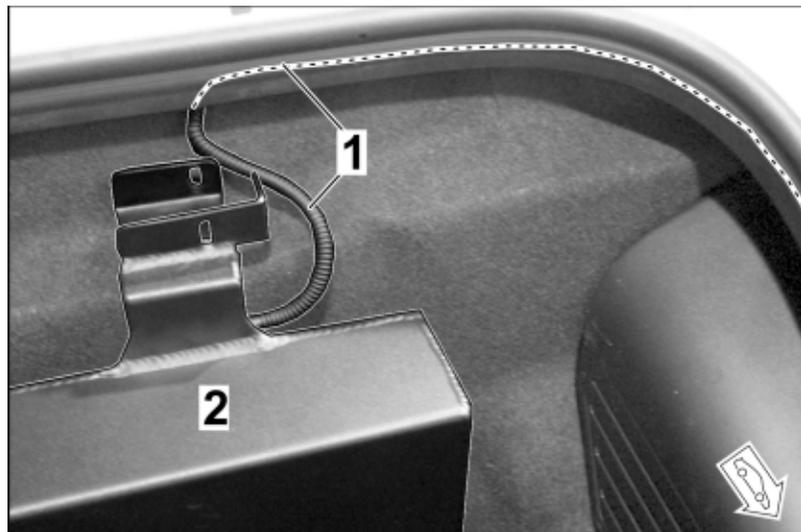

Figure 83
10.4.8 Connect vent line on the water tank (new) behind the left holder (⇒ Figure 83).